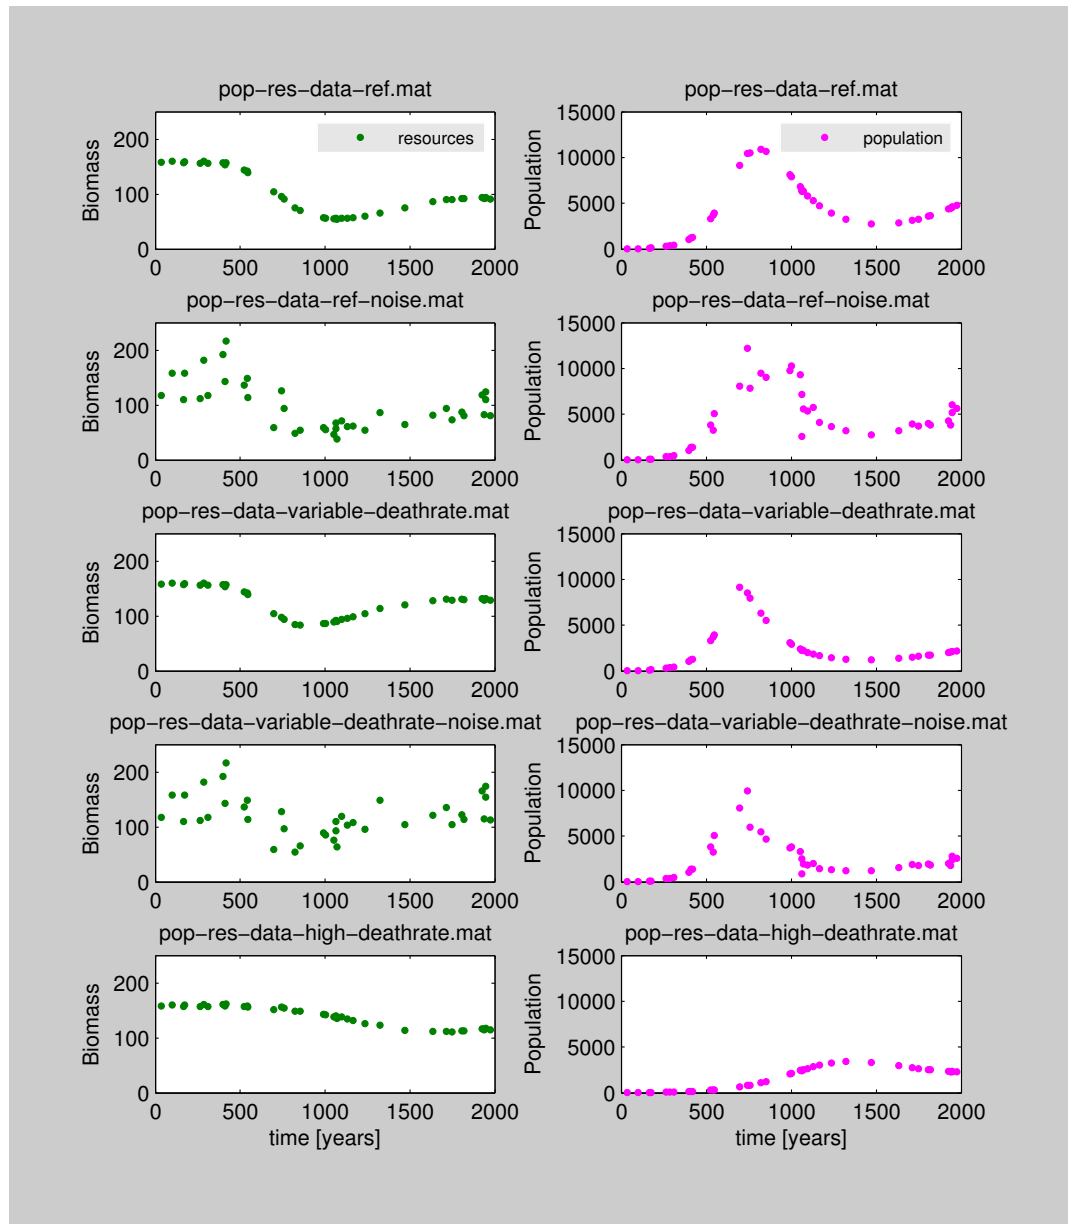

Figure 5.4: Resources-Population plots for the various files.
- 60. Use the MATLAB editor to open ‘dreamWithEasterModel.m’ from ‘./exercises/dream-easter-island/’. Figure 5.4 shows 5 data sets that we have created using the model described above. Experiment with calibrating the `eastermodel` based on either population or resources data from any of the files listed below. Assume an initial Population of 20, and an initial Resources value of 160. To help the interpretation of the results, here are a few pointers on how the data were created: